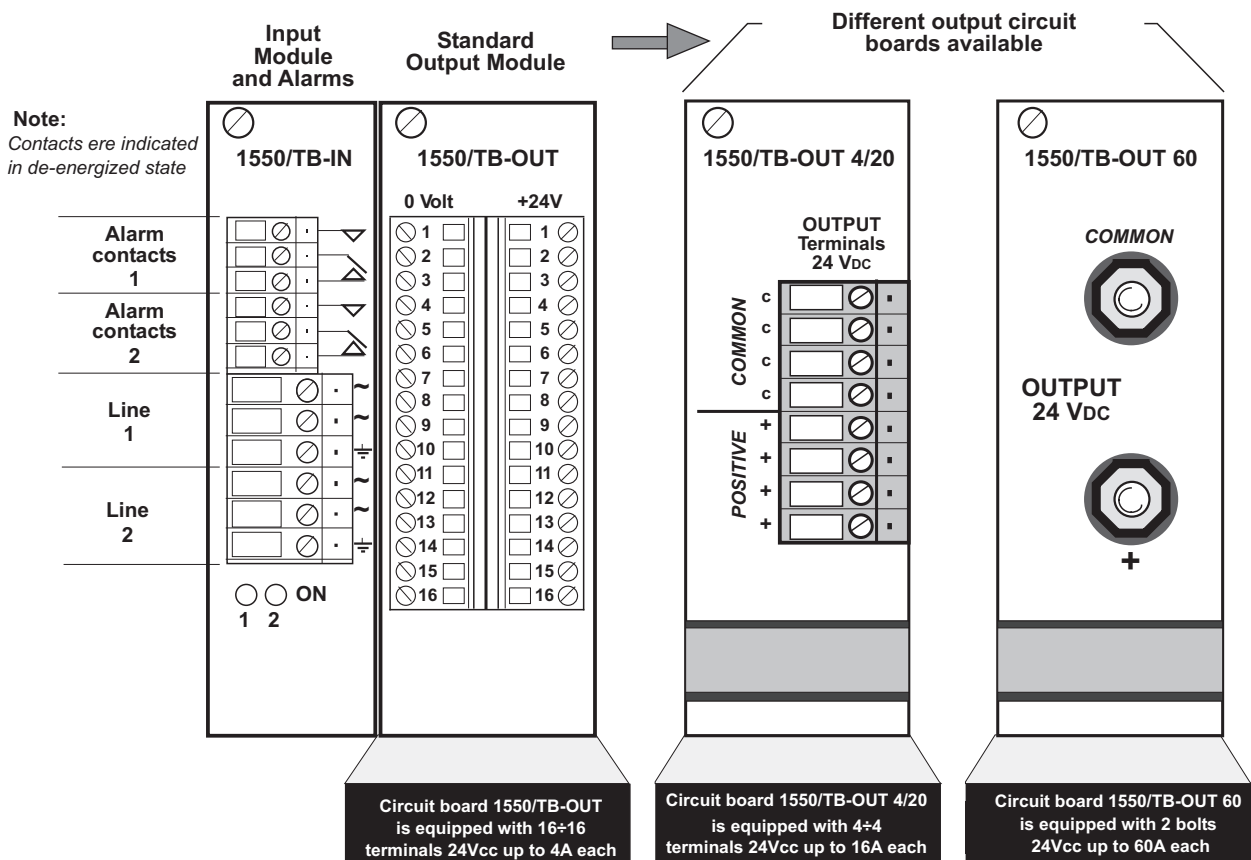

Fig. 2. Input module and three versions for Output Modules
C) an Output Module; three different versions exist (figure 2):